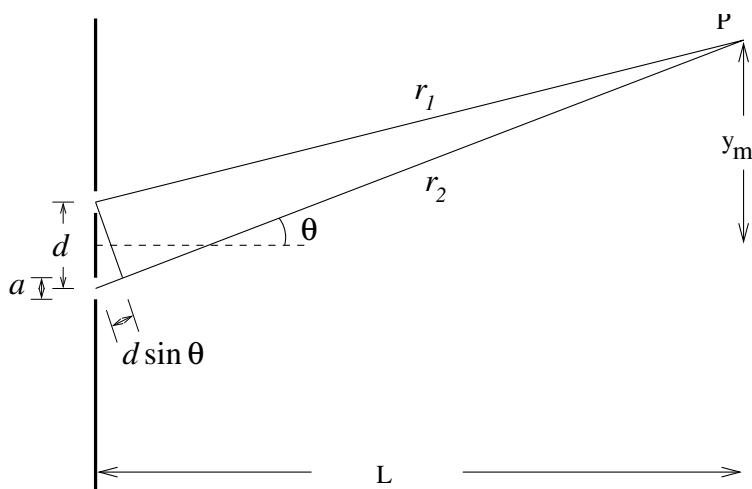

Figure 10.2: The geometry of a simple two slit interference experiment.
Consider the diagram in Fig. 10.2. It shows two openings of width  $a$  whose centers are separated by a distance  $d$ . We want to calculate the intensity as a function of position on a screen a distance  $L$  away. Consider point P which makes an angle of  $\theta$  with respect to the center normal. If we illuminate both slits from the left with a monochromatic wave, we can consider each slit as a source of light; to compute the intensity we need to determine the phase difference between the waves coming from each slit. Then our two-wave interference analysis will tell us the amplitude, from which we can get the intensity.
**If the screen is far away from the slits**,  $d \ll L$ , then the two rays between each slit and P are practically parallel. The phase difference arises from the additional distance one ray must travel over the other. From the geometry of Fig. 10.2, we see that this distance is  $\delta = r_2 - r_1 = d \sin \theta$ . If two waves have a path difference that is an integer multiple of  $\lambda$  ( $\lambda, 2\lambda, \dots$ ) or